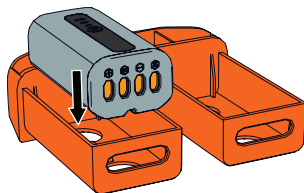

Figure 8
7. Reinsert the battery cases into the battery compartment. Be sure the end with the openings is aligned with the opening on the rear of the battery compartment. (Figure 8)